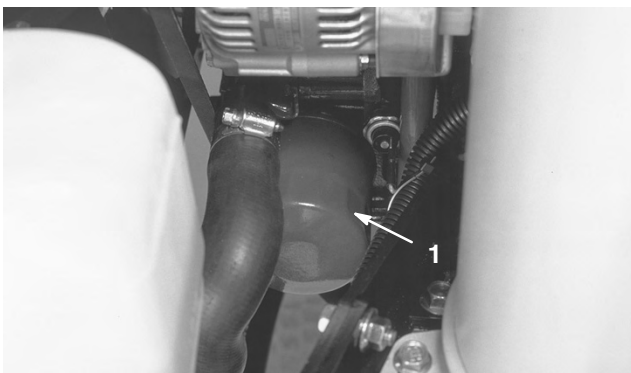

Figure 39
2. Remove the oil filter (Fig. 39). Apply a light coat of clean oil to the new filter seal before screwing it on. **Do not overtighten.**